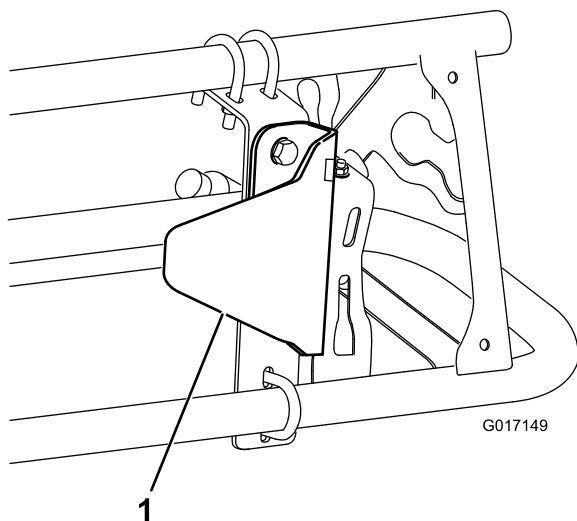

Figure 10
2. Install the sensor guard bracket onto the mounting bracket with 2 bolts (5/16 x 3/4 inch) and 2 flange nuts (5/16 inch) as shown in Figure 10.